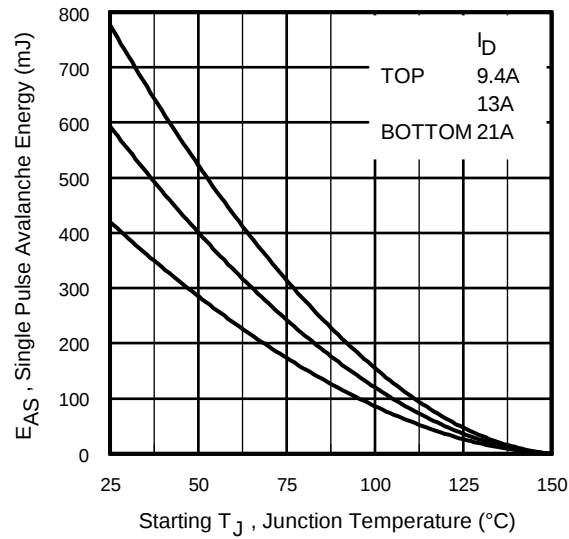

Fig 14a. Maximum Avalanche Energy vs. Drain Current
- ② Starting $T_J = 25^\circ\text{C}$, $L = 1.9mH$, $R_G = 25\Omega$, $I_{AS} = 21A$. (See Figure 14a)
- ③ $I_{SD} \leq 21A$, $di/dt \leq 788A/\mu s$, $V_{DD} \leq V_{(BR)DSS}$, $T_J \leq 150^\circ\text{C}$.
④ Pulse width $\leq 300\mu s$; duty cycle $\leq 2\%$.
⑤ $C_{oss \text{ eff.}}$ is a fixed capacitance that gives the same charging time as C_{oss} while V_{DS} is rising from 0 to 80% V_{DSS} .